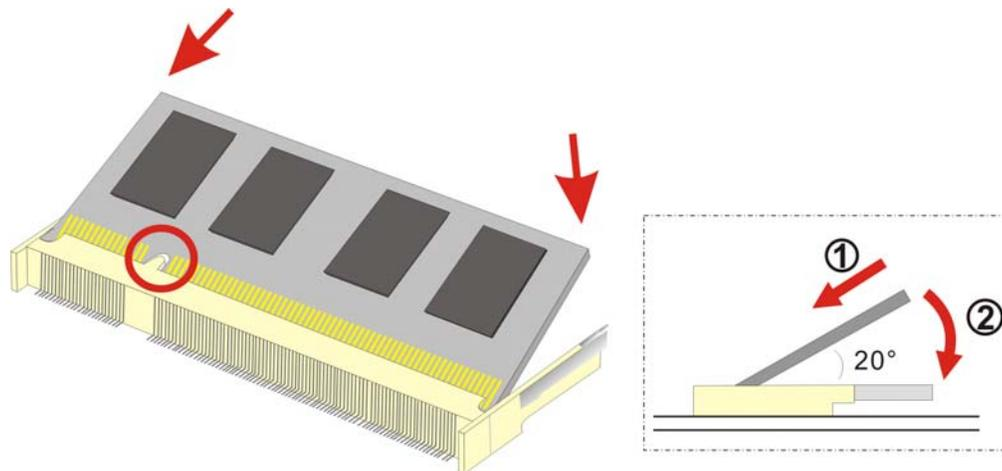

Figure 5-1: SO-DIMM Installation
To install a SO-DIMM into a SO-DIMM socket, please follow the steps below and refer **Figure 5-1**.
- Step 3: Insert the SO-DIMM.** Push the SO-DIMM chip into the socket at an angle. (See **Figure 5-1**)
- Step 4: Open the SO-DIMM socket arms.** Gently pull the arms of the SO-DIMM socket out and push the rear of the SO-DIMM down. (See **Figure 5-1**)